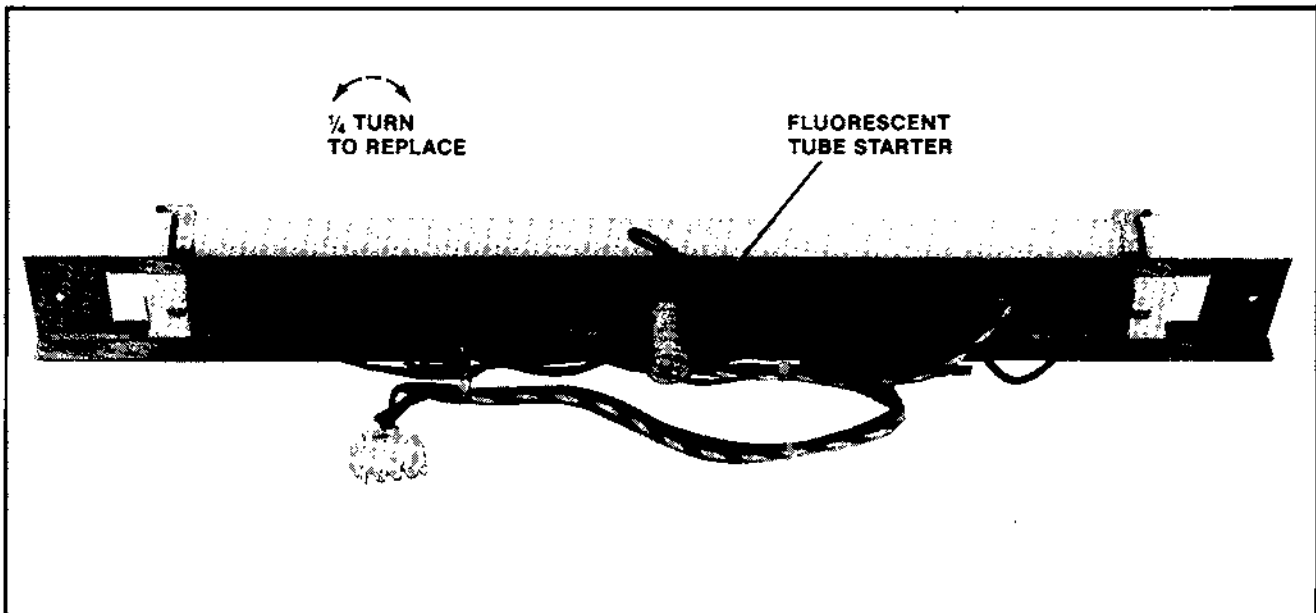

Figure 4-16 Replacing Fluorescent Tube Starter
**WARNING:** If you drop a fluorescent tube and it breaks, IT WILL IMplode! Shattered glass can fly six (6) feet or more from the implosion. Use care when replacing any fluorescent tube.
- Replacing the fluorescent light tube starter. See Figure 4-16.